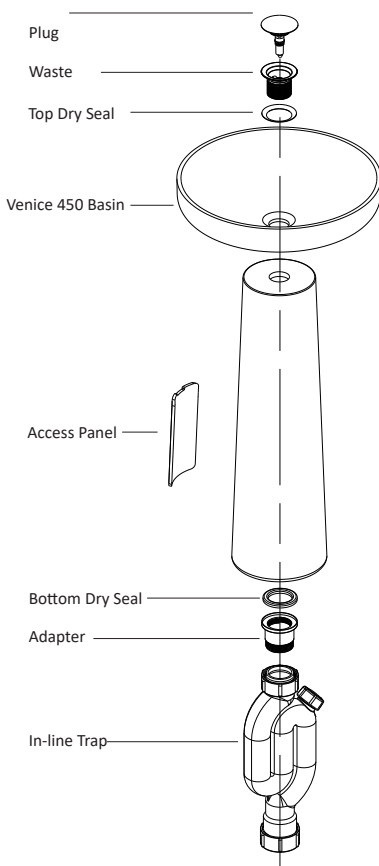

Figure 1.
Step 1. Prepare floor surface and make sure it's clean, dry and level. Ensure plumbing is roughed in and suits pedestal requirements. See figure 1.